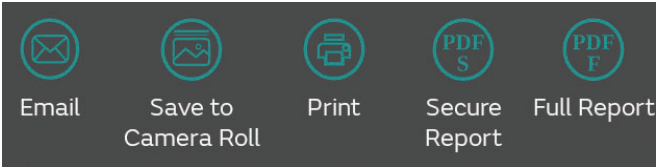

Figure 56. Select PDF Report format
- 3. Tap the **Share Media** button. A menu with the available media types will display (Figure 56).